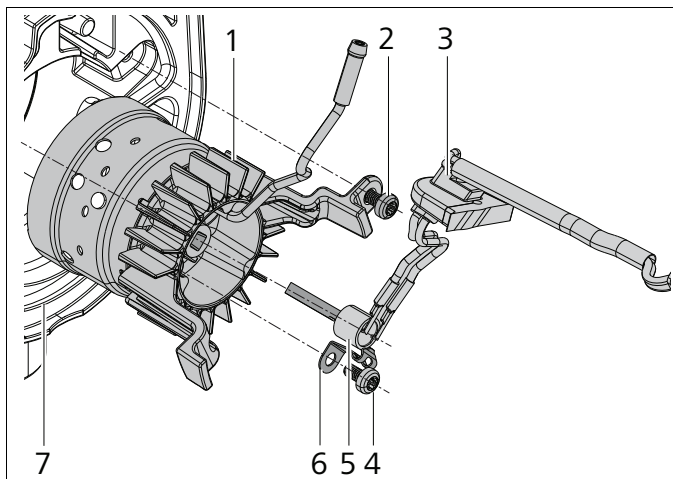

Fig. 809 Burner unit and glow plug
3. Remove screw (2, Fig. 809/Fig. 809).
4. Remove burner unit (1) with glow plug socket (3).